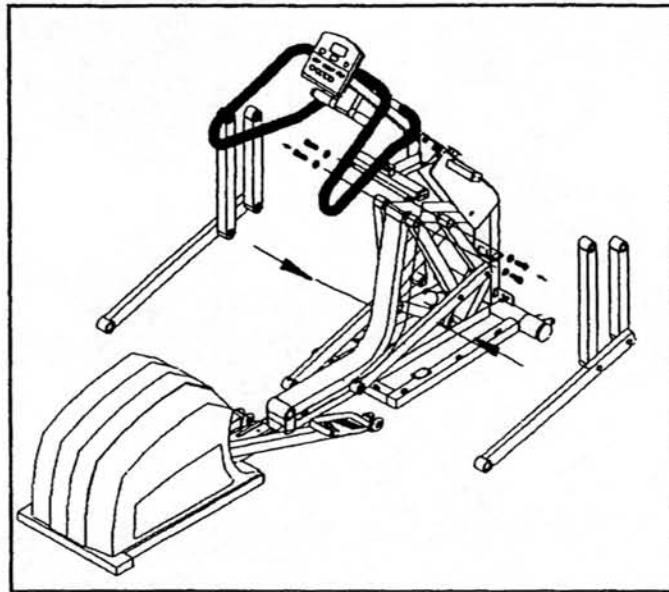

Fig.21-7
4. Tighten all the screws and washers in the ELEVATION FRAME and then assemble the linkages on the FRAME (see fig.21-7).